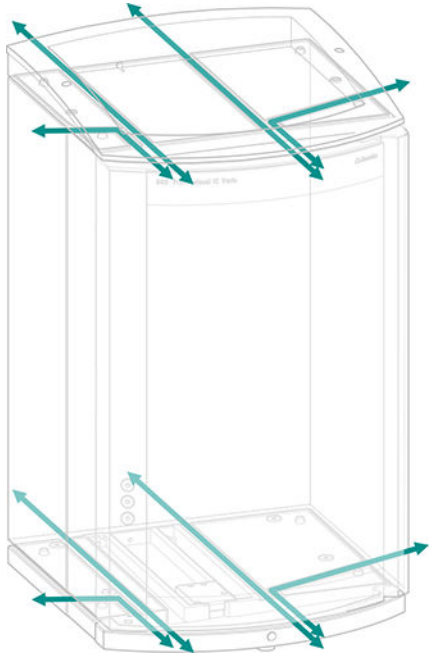

Figure 5 Ducts for capillaries
- Ducts between the instrument and the base tray as well as between the instrument and the bottle holder (*see figure 5, page 15*)